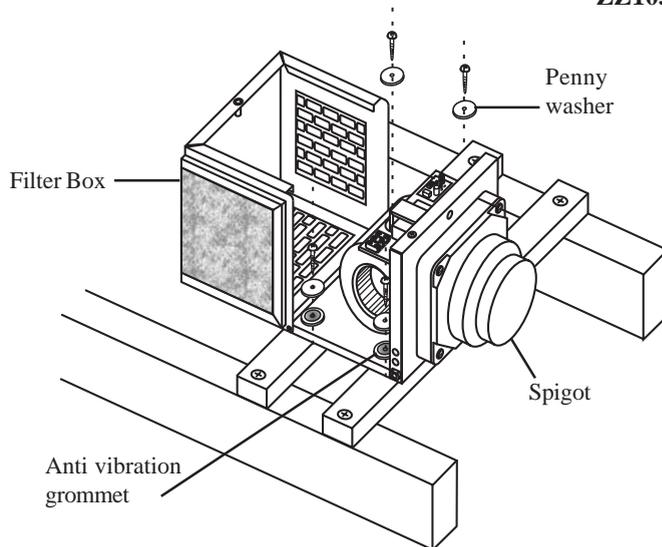

Fig.3
- 3.7 Referring to Fig. 3, mount the **HOME'N'DRY XL** to the battens using the 4 wood screws and penny washers provided into the anti vibration grommets, ensuring that the penny washers are situated on the inside of the unit.